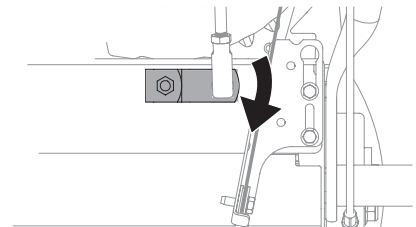

Figure 2-27
9. Make sure the shift lever on the back of the transmission is rotated downward to the full extent of its rotation. See Figure 2-27.